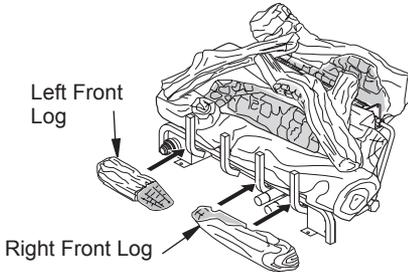

Figure 34 - Installing Front Logs
- Place right and left front logs against grate as shown in Figure 34 to hide the controls.